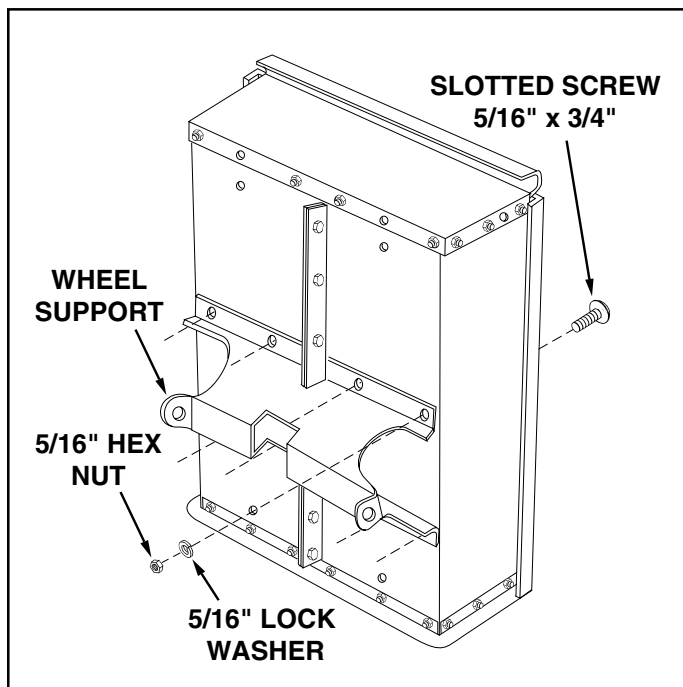

FIGURE 6
10. Assemble the wheel support to the cart using eight 5/16" x 3/4" slotted head screws, 5/16" lock washers and 5/16" hex nuts as shown in figure 6. Heads of screws go to the inside of cart. **Tighten**.